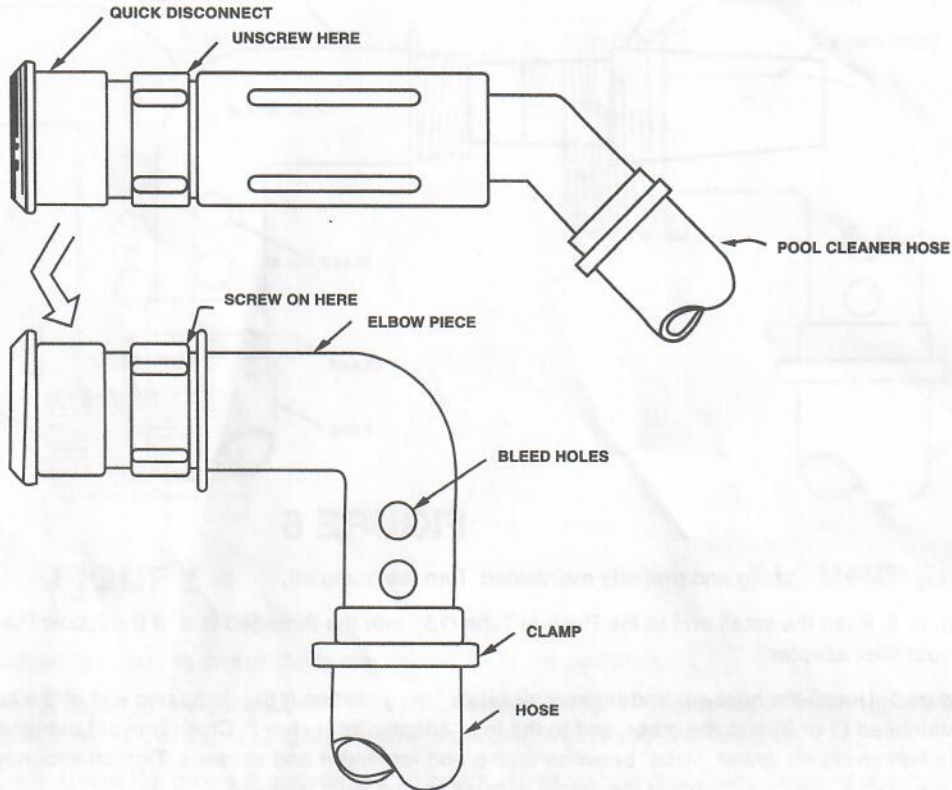

FIGURE 7
- Pool cleaner quick disconnect fittings. Refer to Figure 7. Use installation **instruction 4, page 6** for this type inlet.
Height adjustment is achieved by covering more or less of the bleed holes (Fig. 7) on your Elbow Piece (8) with the hose (4). The more holes covered, the higher the fountain and vice versa.
Height adjustment is achieved by covering more or less of the bleed holes (Fig. 7) on your Elbow Piece (8) with the hose (4). The more holes covered, the higher the fountain and vice versa. If your fountain is still not as high as desired, use the threaded plug (12) to plug one of the other inlets.
2. Unscrew the end of your pool cleaner hose fitting as indicated in Figure 7. Screw the quick disconnect fitting on to the threaded end of the Elbow Piece (7). This is your inlet adapter.
3. Refer to Figure 1. Uncoil the hose (4) and remove all twists. Using clamps (16), clamp one end of the hose to the back side of the fountainhead (1 or 3) and the other end to the inlet adapter from step 2. Cover one set of bleed holes with the hose (Fig. 7). To tighten clamp, grasp "tabs" between thumb and forefinger and squeeze. Tighten securely with a pair of pliers. To open the clamp, grip one "tab" of the clamp with pliers and twist loose.
4. Using the tie wrap (15), LOOSELY attach the anchor (5) to the hose (4). The anchor (5) should be attached to the hose (4) at a point as deep as the water plus approximately two feet. You will have to estimate what the water depth is where you want the fountain and add two feet. **CAUTION: DO NOT CONSTRICT THE HOSE BY TIGHTENING THE TIE WRAP (15) TOO TIGHT.**
6. Place the fountain assembly into the pool. Position the fountain in the desired location being careful not to crimp the hose (4)
Height adjustment is achieved by covering more or less of the bleed holes (Fig. 7) on your Elbow Piece (7) with the hose (4). The more holes covered, the higher the fountain and vice versa.